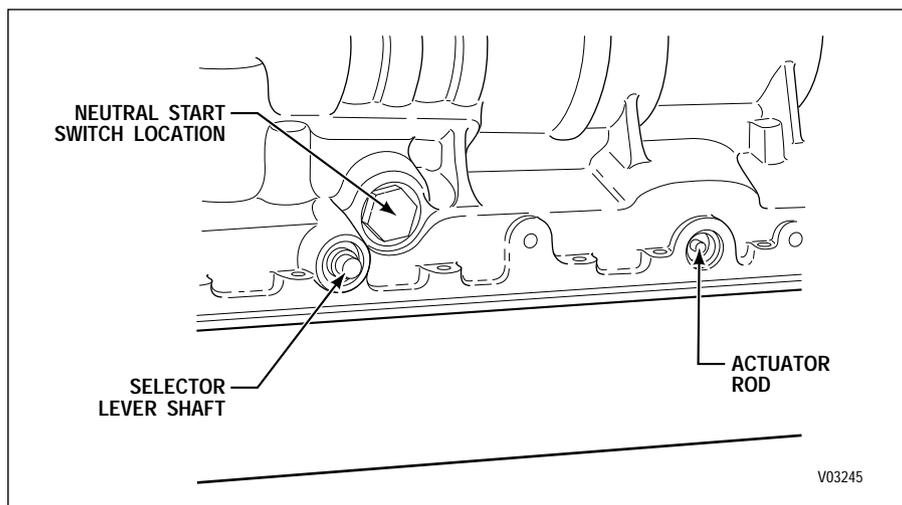

Figure 3–5. Provision for Neutral Start Switch
- Install the Neutral Start Switch (if so equipped) into the tapped opening above the selector shaft (Figure 3–5). The switch must include an aluminum washer (gasket) approximately 0.090 inch (2.29 mm) thick. The washer on some switches has indentations on one side. Install the washer onto the switch with the indentations facing away from the switch. Make sure all mating surfaces are clean and free of contamination. Apply a light coat of Loctite® pipe sealant with Teflon®, or equivalent, to the threads of the switch. Install the switch assembly and tighten it to 50–60 lb ft (68–81 N·m) using installation wrench J 33410.